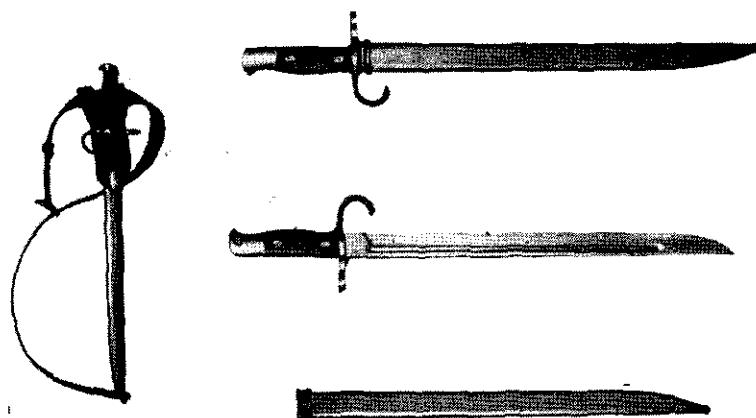
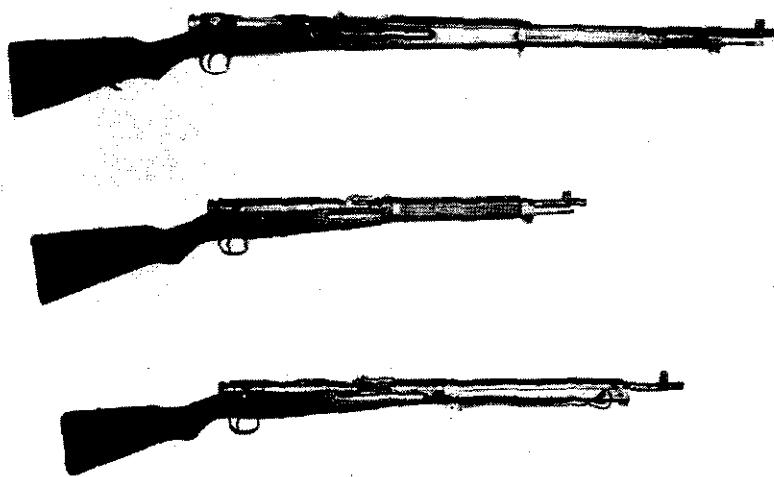

Figure 20.—Model 30 (1897) bayonet and accessories.
Figure 27.—Model 38 (1905) 6.5-mm rifle (top), Model 38 (1905) 6.5-mm carbine (center), and Model 99 (1939) 7.7-mm rifle (bottom),
similar (see fig. 27, p. 41). This carbine, like the rifle, is fitted to take the Model 30 (1897) bayonet (see **9** (1), below, and fig. 20, p. 33).
well to discard the bolt cover. A straight, one-edged bayonet, the Model 30 (1897) (fig. 20), is provided; it locks firmly to the muzzle and upper band in the same manner as the bayonet for the U. S. M1903 (Springfield) rifle. (See also figs. 14, 15, and 19, pp. 25, 26, and 31, respectively.)
In some areas the Model 99 (1939) 7.7-mm rifle (fig. 26) is replacing the Model 38 (1905) 6.5-mm rifle (*Arisaka Sampachi*) (par. 8, p. 25) as the basic Japanese infantry weapon. It is 5 inches shorter and of larger caliber than the Model 38, but otherwise it is identical in construction (see fig. 27). Like the older model, it is fitted to take the Japanese service bayonet (fig. 20, p. 33). (For a long model 7.7-mm rifle, see par. 47, p. 240.)